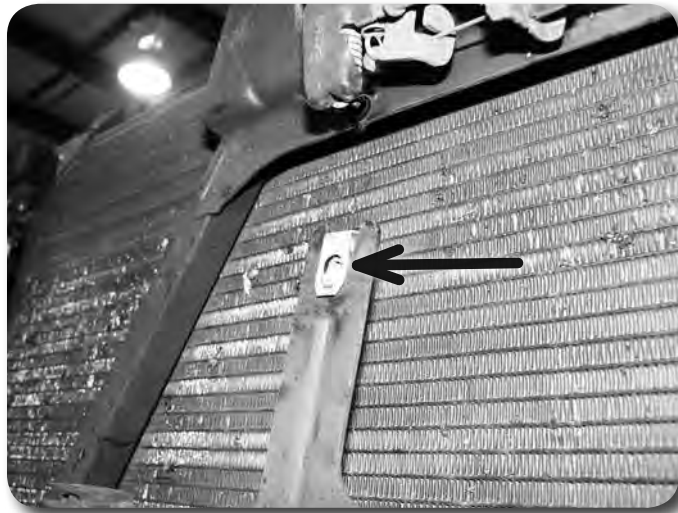

Figure 21
52. Carefully remove the two nut clips from the top of the transmission oil cooler, turn them around and reinstall so they are now facing the opposite direction **Figure 21**.